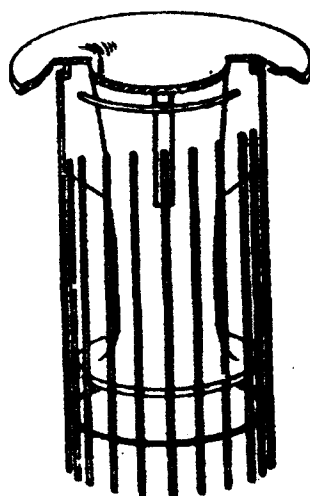

FIGURE 3
- 2.6. If a new cage is to be installed, snap cage top (open end) onto venture lugs. Verify that the Venturi is locked into place (See figure 3).